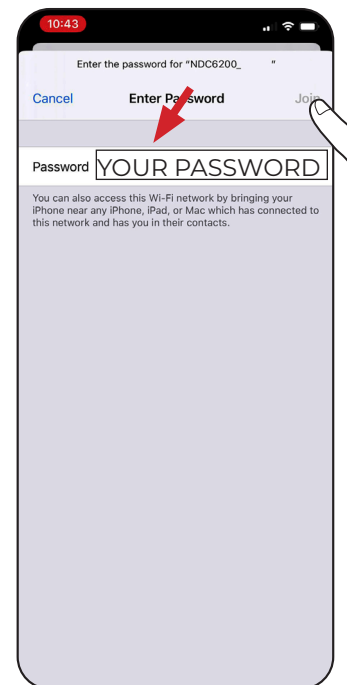

Figure 13
3. Enter operator password. (Figure 13)